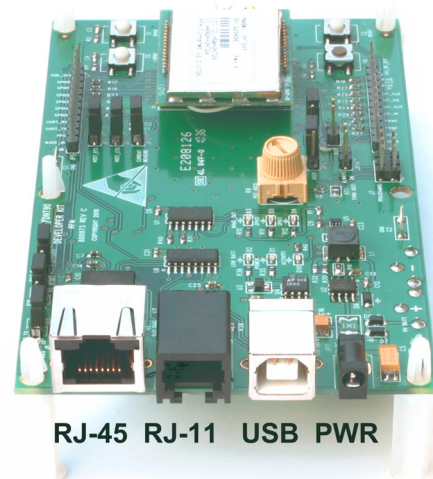

Figure 4
5. As shown in Figure 4, there are three serial connectors and a power connector on the end of each interface board. The RJ-45 connector provides an RS232 interface to the DNT90P's main serial port. The USB connector provides an optional interface to the radio's main serial port.